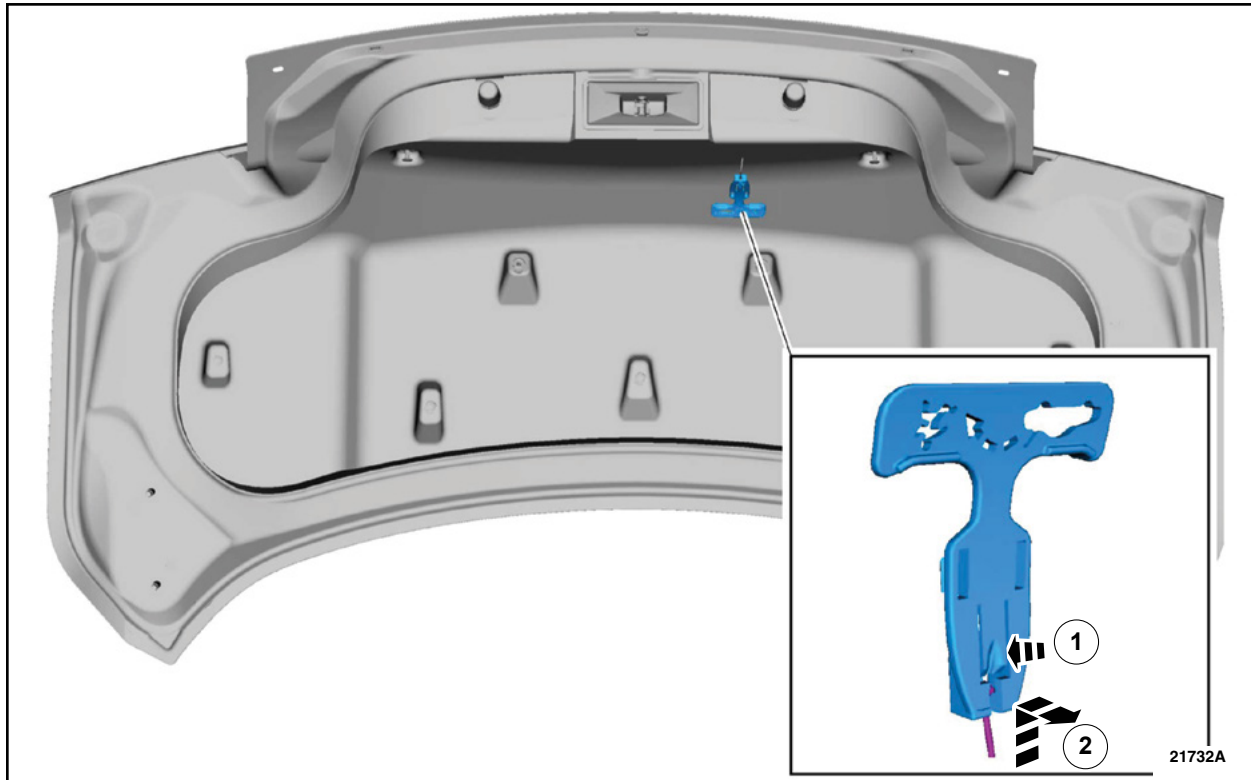

FIGURE 4
7. Remove the luggage compartment lid emergency release handle. See Figure 4.